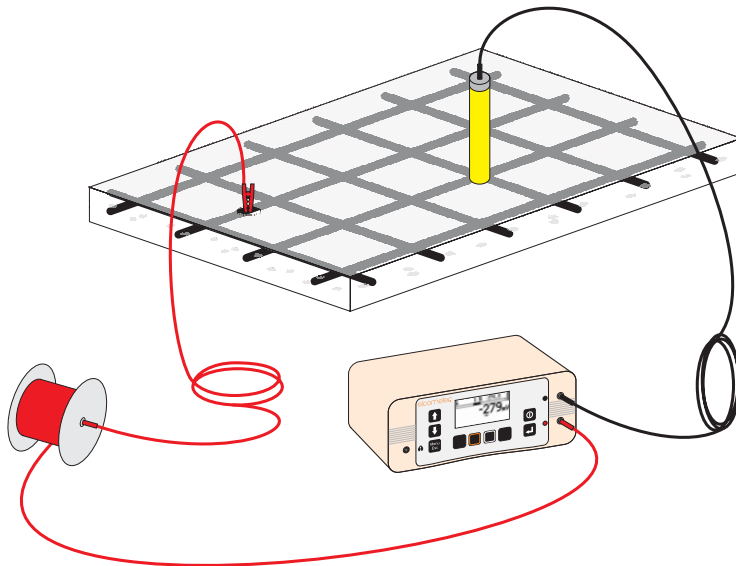

Figure 4. Typical instrument configuration for half-cell measurements
6. Connect the red cable and extension reel between the exposed reinforcing bar and the red terminal on the Half-Cell Meter (Figure 4). Connect the black cable between the probe and the black terminal on the Half-Cell Meter.